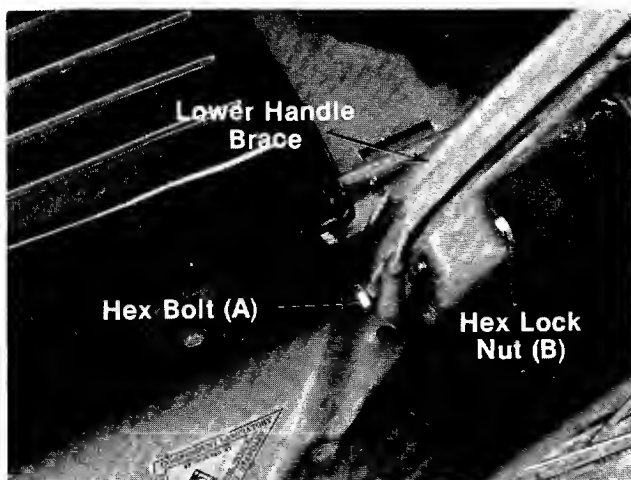

FIGURE 3.
2. Fasten bottom of left and right hand lower handle supports to frame using hex bolts (A) and hex lock nuts (B). See figure 3.